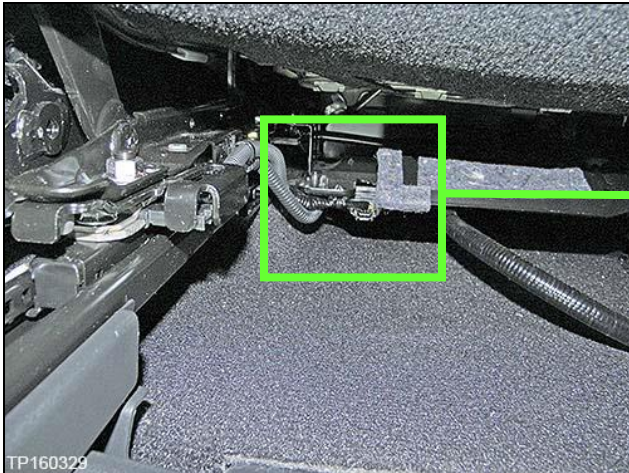

Figure 4
11. Disconnect the OCS harness connector (Figures 4 and 5).